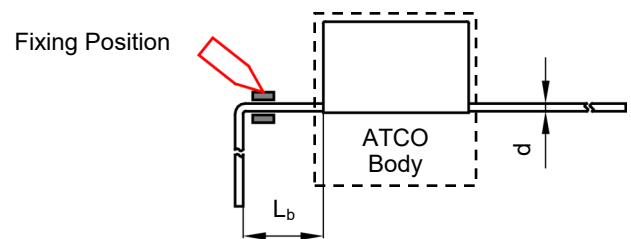

FIGURE HP-2
2. When bending leads, please use pincher or similar tools to fix the product as shown in Fig.HP-2, to avoid damaging the product.